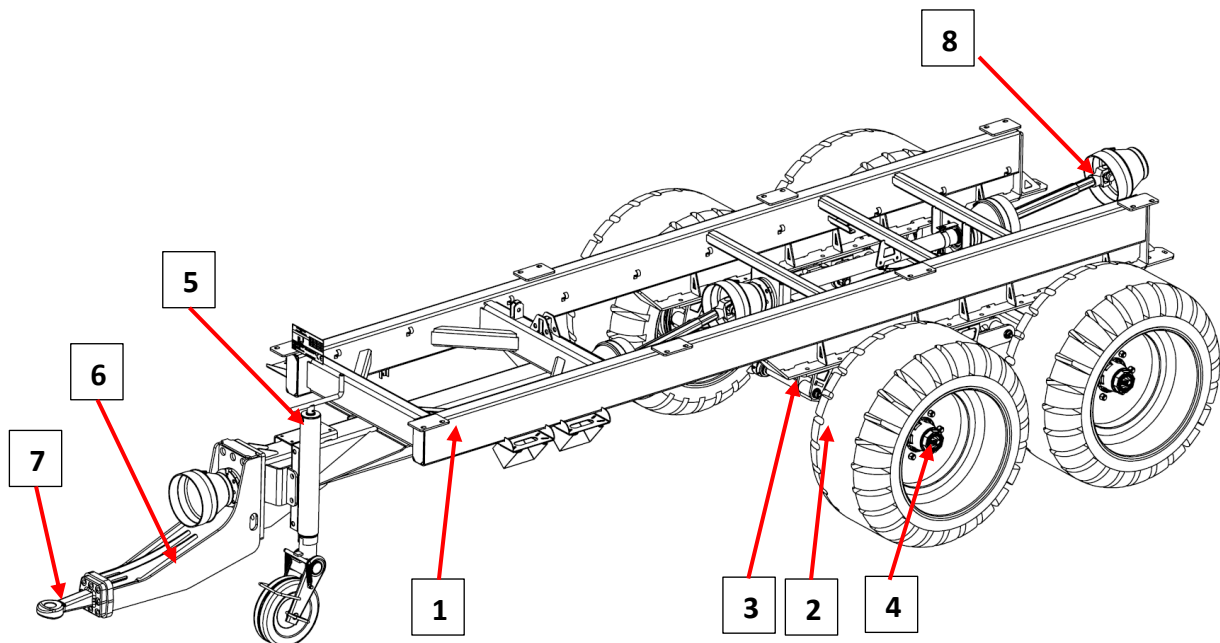

Fig. 8 Spreader chassis
The bottom frame (fig. 8, item 1) is a welded construction consisting of two stringers joined by cross-bars, and the drawbar beam.